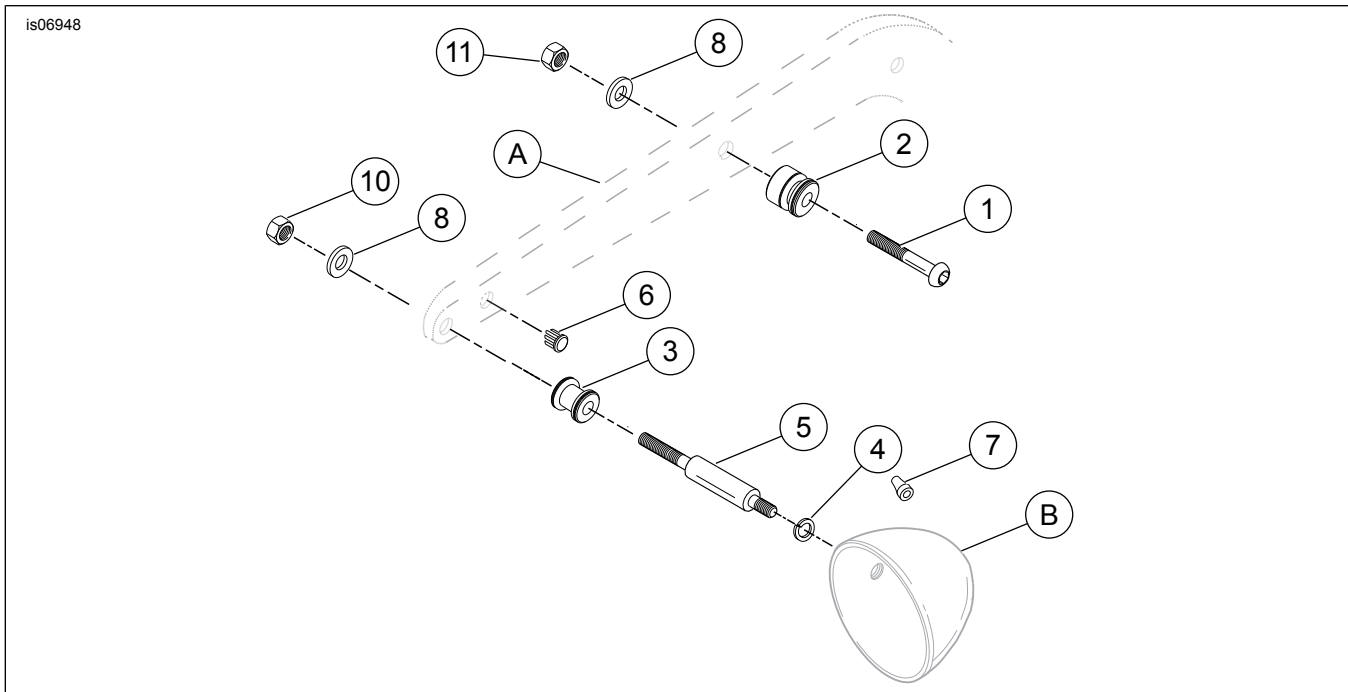

Figure 3. Service Parts: Dyna Docking Hardware Kit
See Figure 3 and Table 1.
3. See Figure 3. Remove the center bolt from the fender support. This will be the location for the front docking point. The rear docking point will mount at the rear hole on the fender support bracket along with the turn signal.
4. Place the countersunk side of the front docking point (2) so that it faces towards the fender support. Insert the bolt (1) through the docking point (2) and into the fender. Then install the washer (8) and locknut (11) on the inside of the fender. Tighten to 37 N·m (27 ft-lbs).
- Cut wires within turn signal housing about 3 in. away from point where wires connect to the bottom of the bulb socket. From underside of fender, withdraw end of wires that are within turn signal housing support (4) into the inner fender area.
- Remove and discard 5/16 in. bolt and lockwasher (6) securing rear turn signal to fender. Bolt and washer are located on inside of fender.
- See Figure 3. Install lockwasher (4) and rear turn signal housing onto short threaded end (5/16-24 x 3/8 in.) of turn signal stalk (5) from kit. Tighten securely. Take care to avoid scratching or marring component chrome finish.
- Insert the wires through locknut (10), washer (8) and through the rear hole of the fender support.
- Place the rear docking point (3) on the long threaded end of turn signal stalk (5) so that the countersunk side will face the fender support. Insert the turn signal wires through the long threaded portion of the turn signal stalk (5). If the wires bind inside the turn signal stalk (5), apply a drop of liquid dish soap on the end of the wires and insert again. Wipe off excess dish soap from the turn signal wires. Insert rear turn signal stalk through rear mounting hole in rear fender support, and rear fender.
- Install flat washer (8) and locknut (10) onto turn signal stalk on inside of rear fender. Tighten finger-tight.
- Install chrome hole plug (6) in fender support hole previously used for turn signal wire. In order to achieve a snug fit, the tines of the hole plug may have to be spread apart. To spread the tines, hold the cap end of the plug firmly and using a pliers, bend each of the tines outward slightly. Repeat this as necessary to achieve a snug fit.